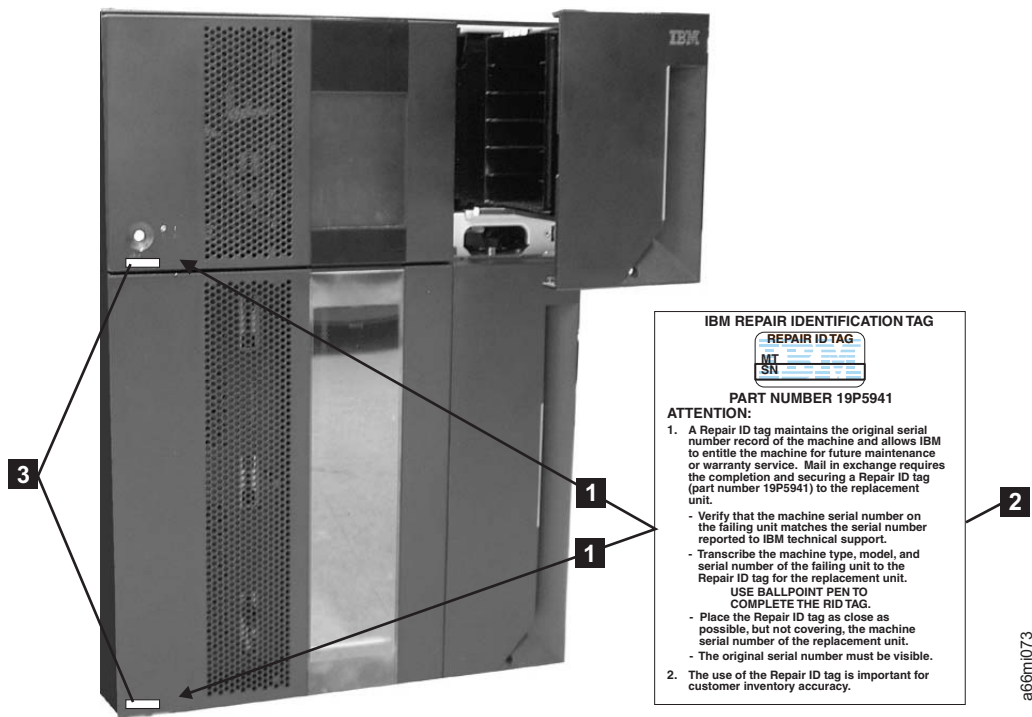

Figure 7-18. RID tag placement
1. Copy the serial number from the label in the lower left corner of the old enclosure onto the RID tag (**2** in Figure 7-18).
2. Place the RID tag to the right of, but not covering, the serial number label located in the lower left corner of the new library enclosure (**1** in Figure 7-18).